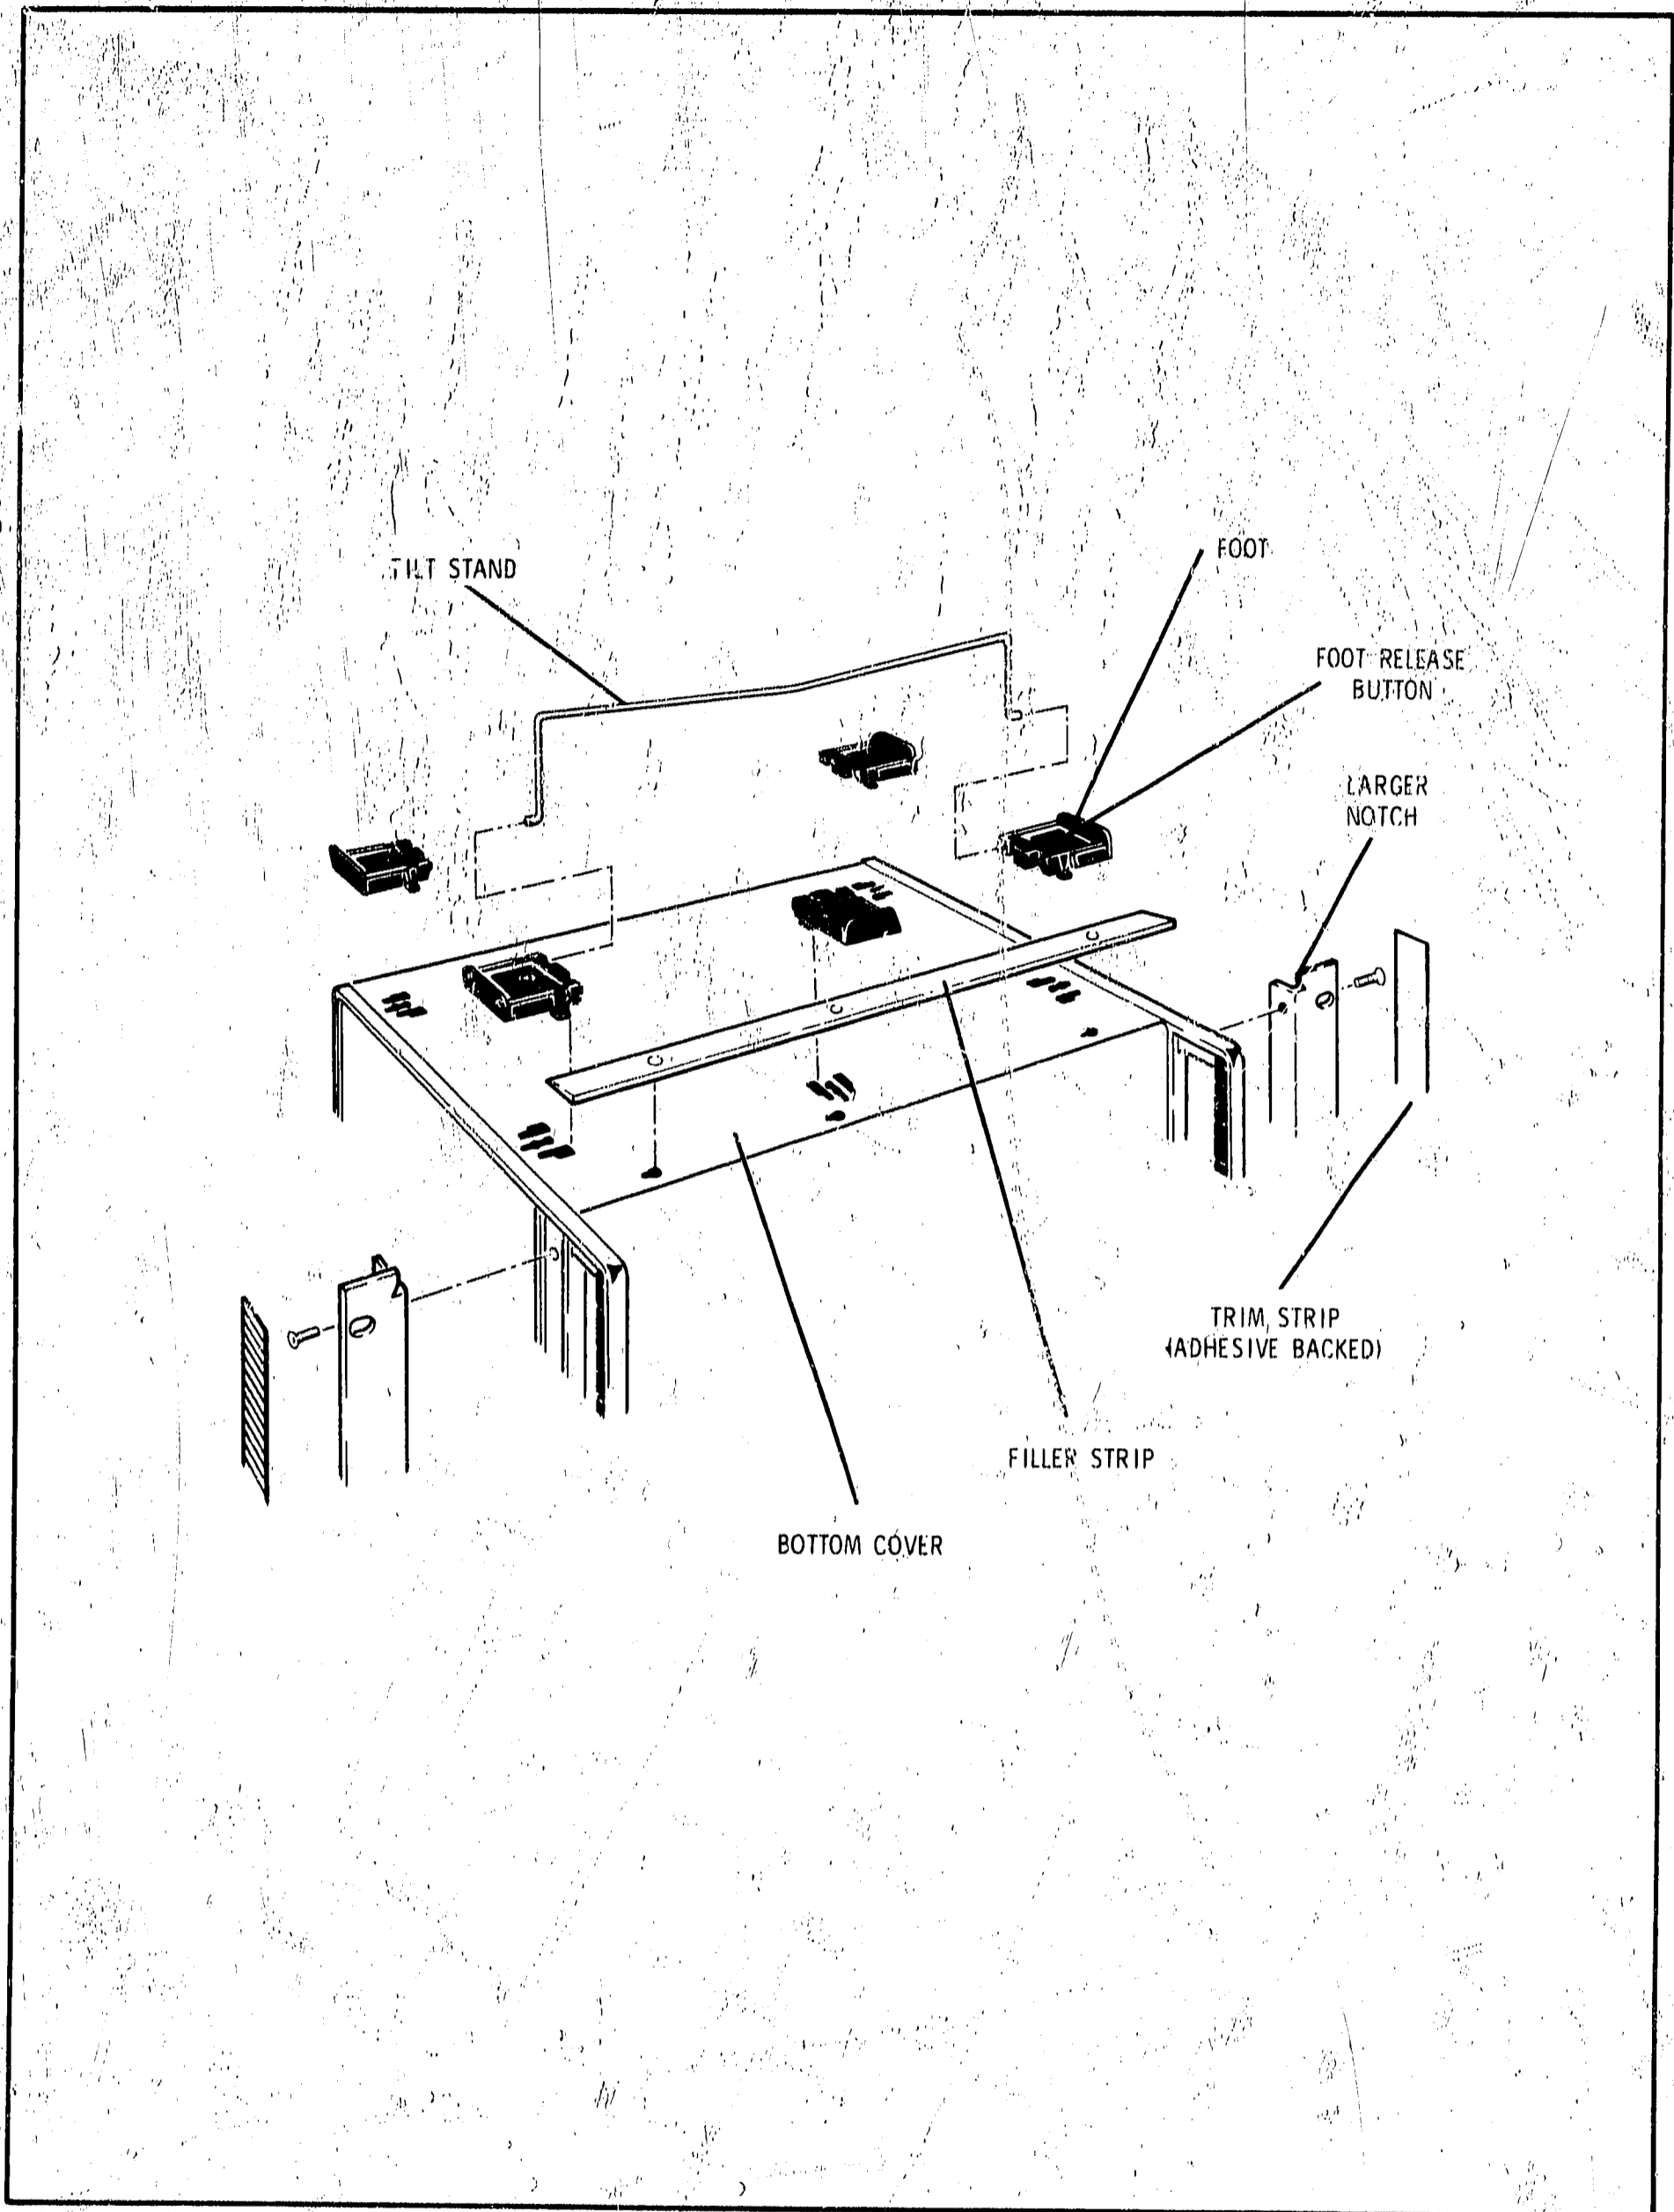

Figure 2-1. Conversion to Rack Mount
- a. Remove trim strip on sides of instrument (refer to Figure 2-1).